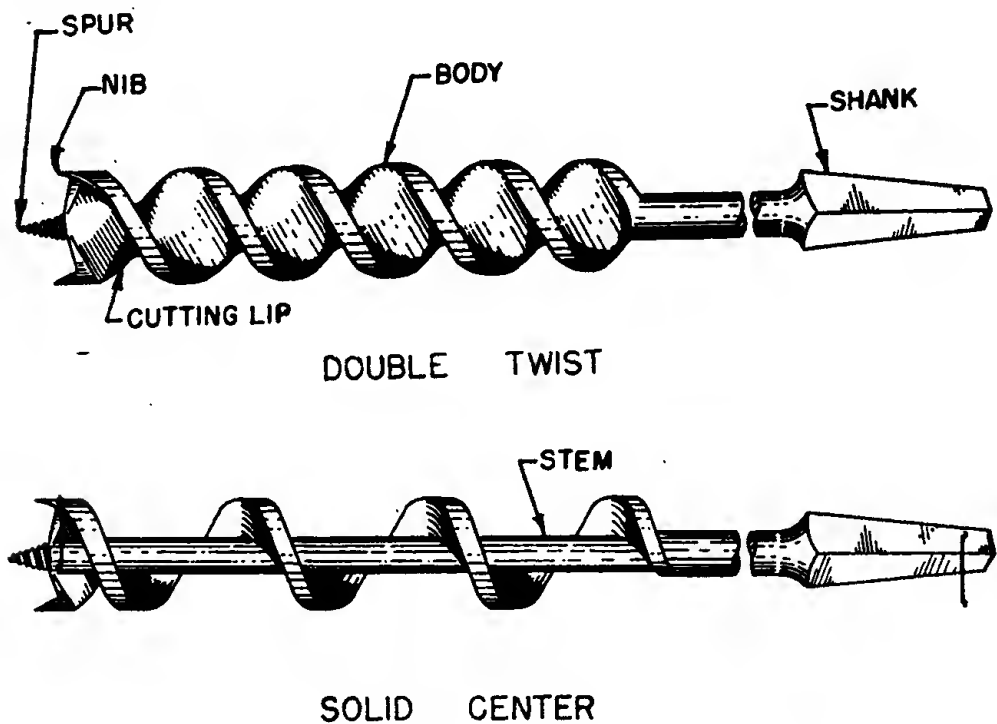

Figure 89. Wood bits.
c. Bits. (1) A wood bit has a spur, two nibs, two cutting lips, a body, and a shank. (See fig. 89.) The spur has threads on it and draws